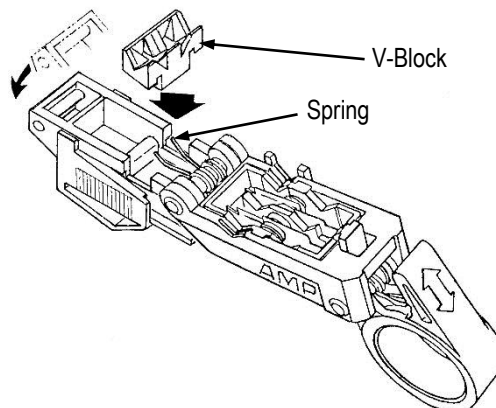

Figure 12
1. Open tool fully (Figure 12) until the springs holding V-block release.